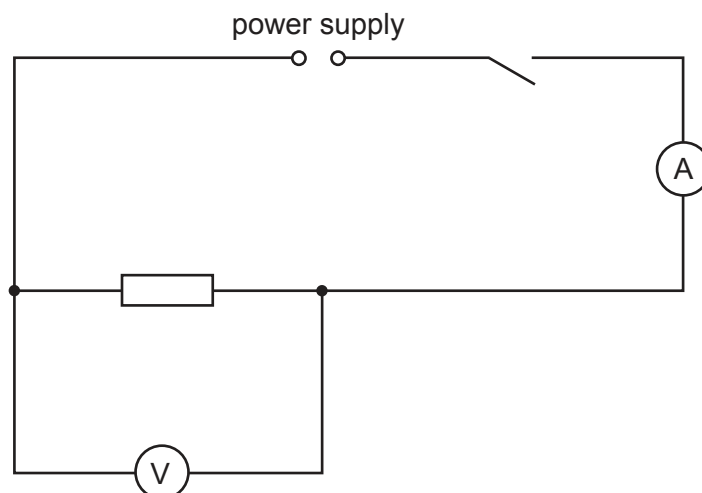

Fig. 2.1
- (iii) A lamp in a suitable holder. Any low-voltage lamp will suffice, provided that it glows when connected in place of the resistor as shown in Fig. 2.1. See note 3.
- (vii) Sufficient connecting leads to construct the circuit shown in Fig. 2.1, with two additional leads. See note 3.
1. The components are to be connected by the supervisor as shown in Fig. 2.1. The lamp is not to be connected into the circuit.
Set up the circuit so that it is arranged as shown in Fig. 2.1.